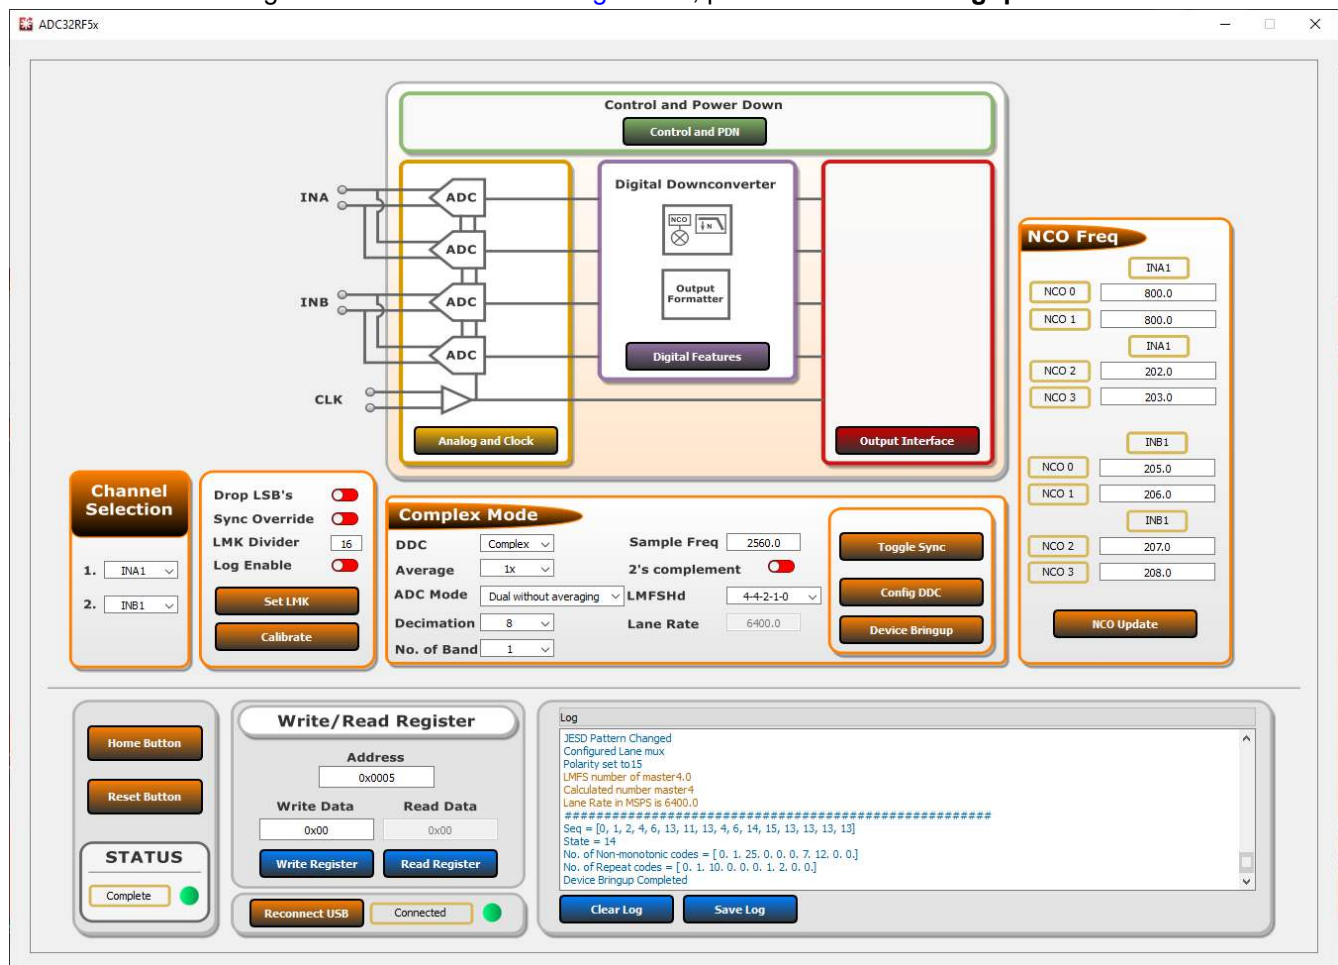

Figure 4-1. ADC32RF5xEVM GUI, 8x complex decimation, 800 MHz NCO
6. Once these settings are verified and match Figure 4-1, press the **Device Bringup** button.